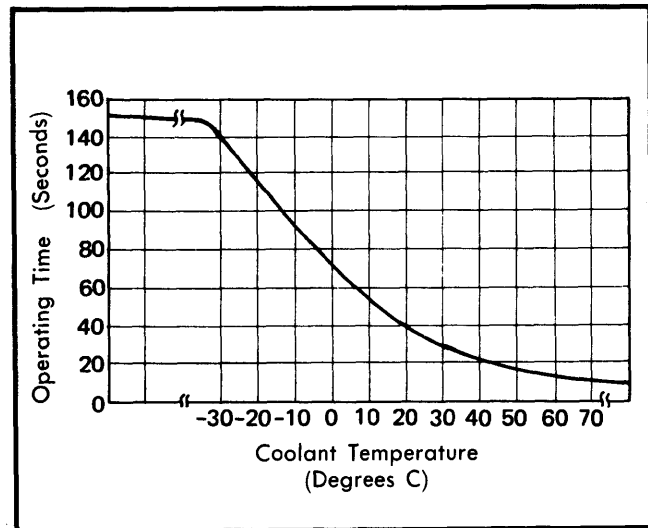

Fig. 7 Pre-heating Time/Temperature Chart
3) Turn ignition off and stop engine. Turn ignition on again and check that current flow to terminal 8 (Green/Red) at timer is present according to temperature chart. See Fig. 7.